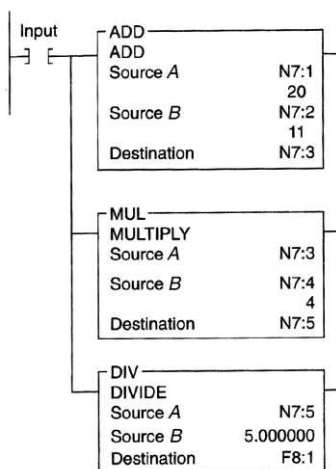

Figure 11-25 Program for question 20.
20. With reference to the program of Figure 11-25, when the input goes true, determine the value that will be stored in each of the following words.